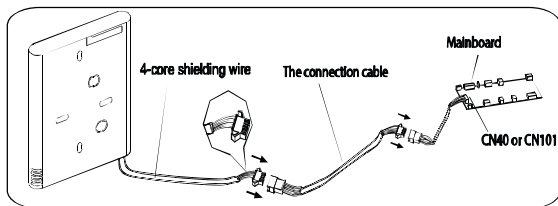

Fig. 4 — Installation of KSACN0501AAA
1. Connect the female joint of the wires group from the main board with the male joint of the connective wires group (see Fig. 4).
2. Connect the other side of the connective wires group with the male joint of the wires group leads from the wire controller (see Fig. 4).
2. Remove the upper part of the wire controller (see Fig. 4).